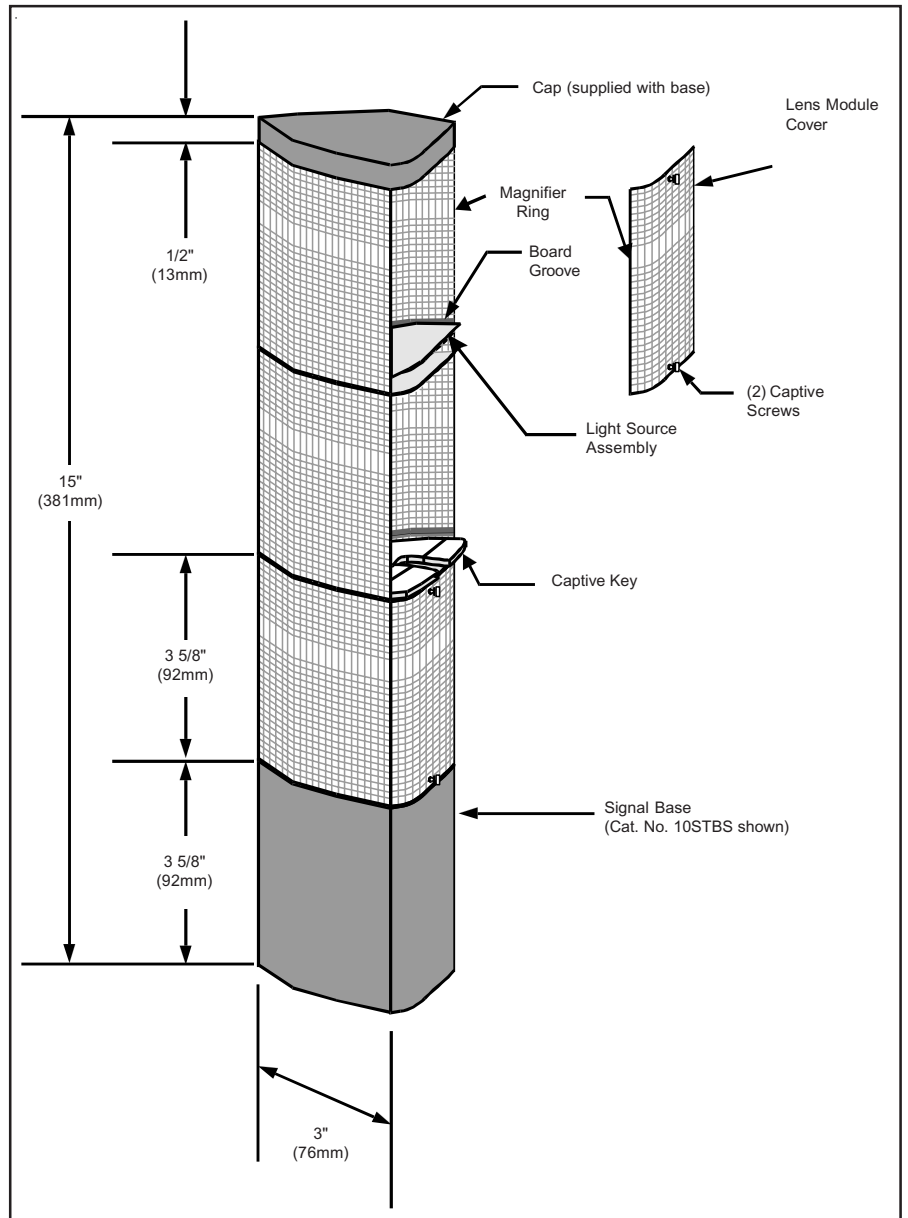

Figure 3. Assembling the Stackable Status Indicator (Cat. No. 102TBS shown for illustration purposes only)
- (1) To sound tone module independently, connect to separate hot lead.
- (2) To sound tone module with a particular light, connect horn hot terminal to selected light terminal on Cat. 102TBS terminal block.
4. Assemble the stackable beacon lighting system (Figure 3).
To prevent leakage, ensure the magnifier ring on the lens cover and the magnifier ring on the lens module are aligned (Figure 3).